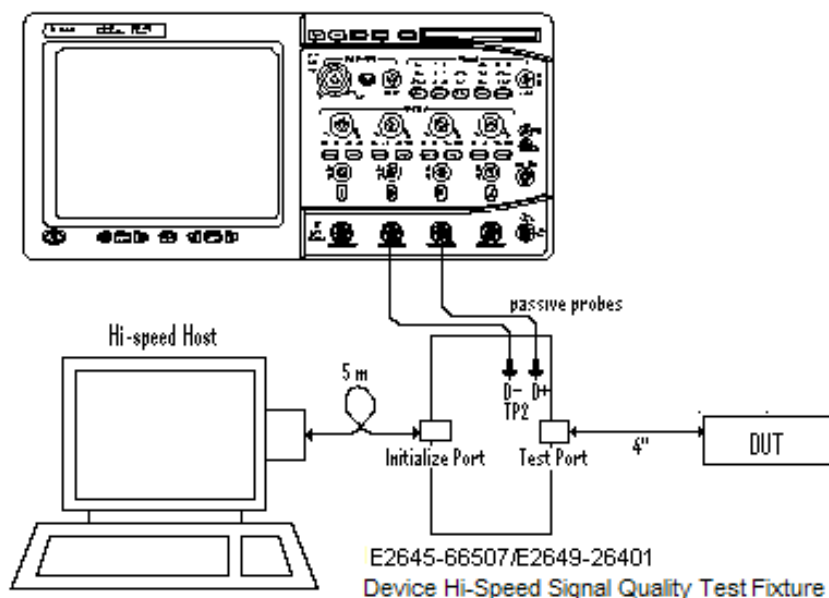

Figure 41. Device Chirp J/K Test environment
2. Connect the equipment and test fixture as shown in Figure 41.